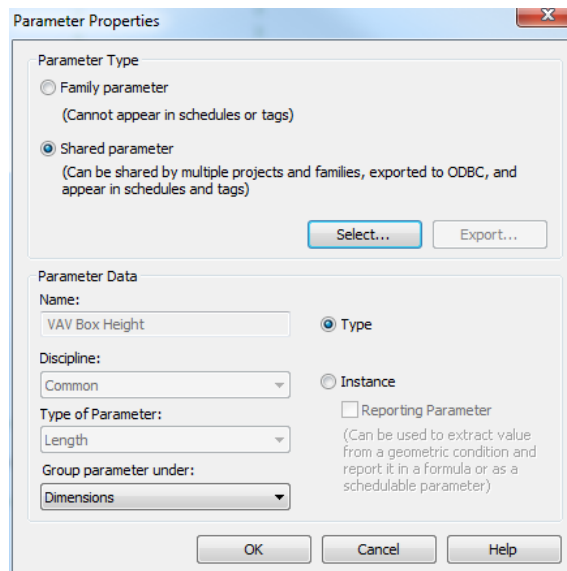

Figure 20. The *VAV Box Height* parameter.
28. Using the techniques that were used for the *VAV Box Width* and *VAV Box Length* parameters, assign the 10" dimension to the parameter *VAV Box Height* (remember that it should be a shared parameter). Group the parameter under *Dimensions* and make it type-based, so that your Parameter Properties dialog looks like Figure 20.